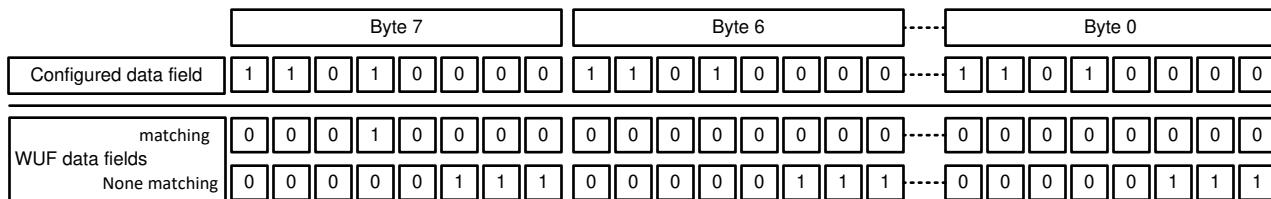

Figure 8-25. Data Field Validation for WUF Example
When the Data mask is enabled via the data mask bit, the data of the received frame must match the configured Data where at least one logic high (1) bit within the data field of the received frame matches a logic high (1) of the data field within the configured data. The relevant bit positions are determined by the configured Data in 8'h39 through 8'h40 and enabled by Data mask enable in 8'h38[0]. An example of a matching and non-matching Data is shown in Figure 8-25.